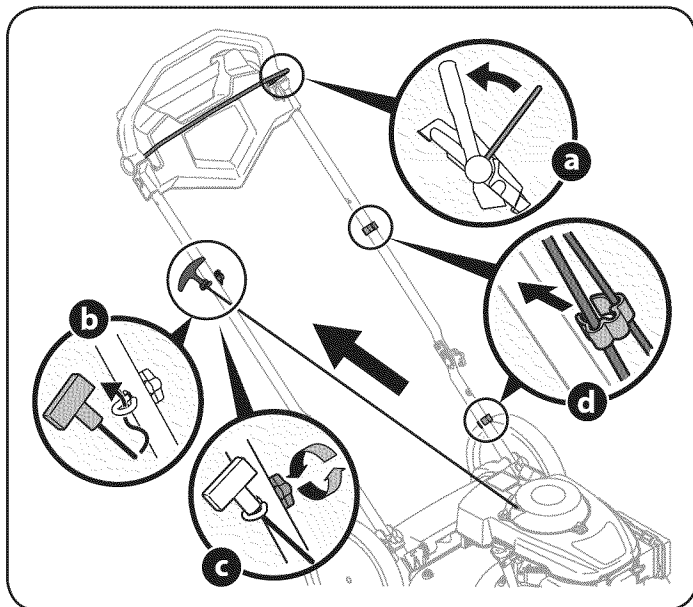

Figure 6
4. The rope guide is attached to the right side of the upper handle. Loosen the wing knob which secures the rope guide. Refer to Figure 6.
- b. Slowly pull starter rope handle from engine and slip starter rope into the rope guide. See Figure 6.
- d. Use cable clips provided to secure blade control and drive cables to lower handle as shown in Figure 6.